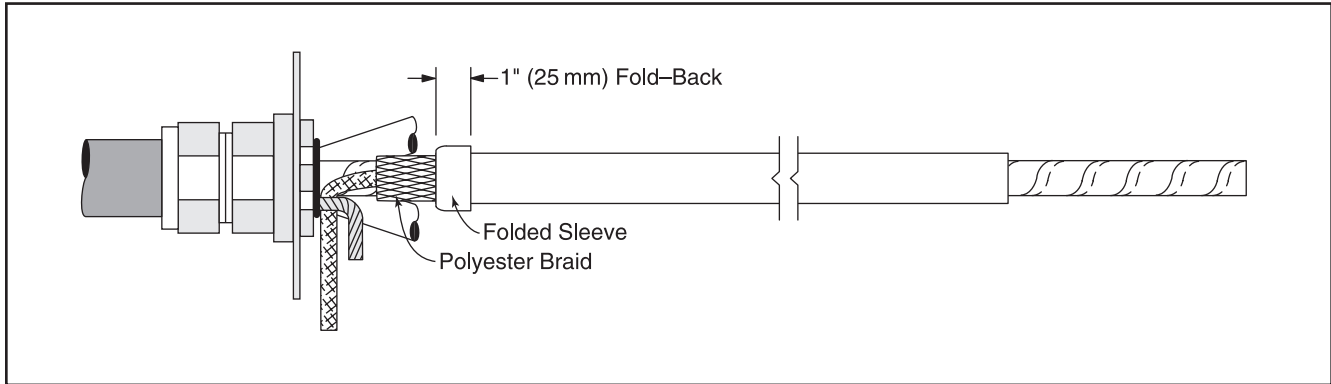

Figure 8
3.6 Fold outer silicone tubing back on itself for 1" (25 mm) and trim off exposed polyester braid (*Figure 8*).